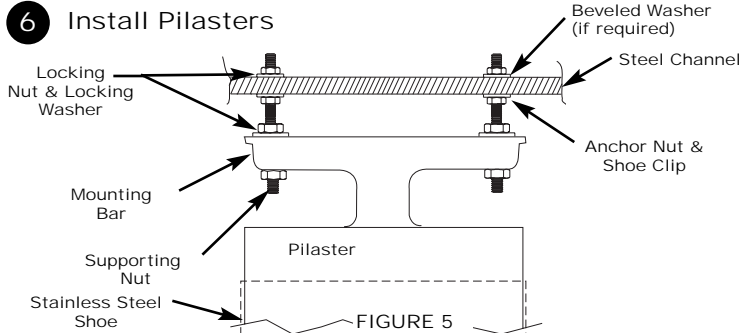

FIGURE 5
- C. Insert expansion shields or other ceiling fasteners and position 3/8" threaded rods, each secured with a shoe clip and anchor nut at ceiling. See figure 5.
- A. Level pilasters from one compartment to the next by adjusting support nuts on the threading rods. See figure 5.